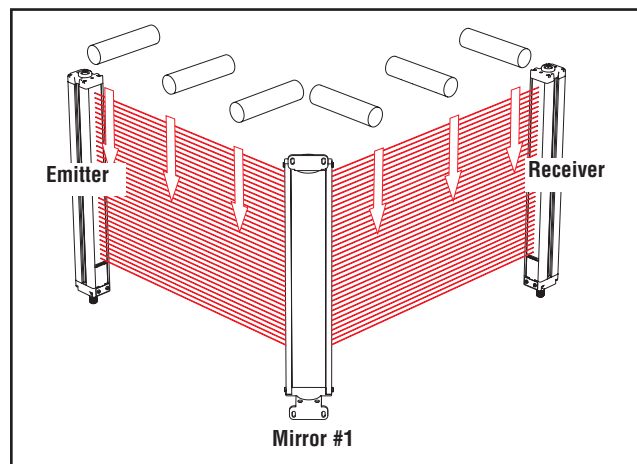

Figure 3-15. EZ-SCREEN Screen trip test with corner mirrors
**If mirrors are used in the application:** Test the defined area on each leg of the sensing path (e.g. emitter to mirror, between mirror and receiver, see Figure 3-15).